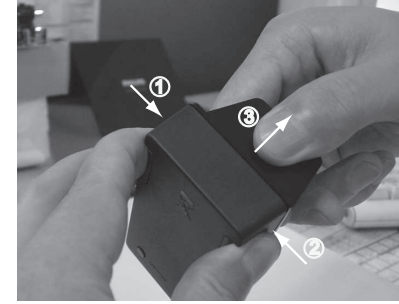

Figure 12
- 1) Press the module both sides as shown ① & ② and pull the outer cover as shown ③ in figure 12
- 1) Loosen 3 screws "K" as shown in figure 12